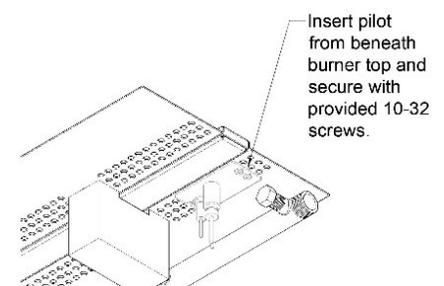

FIGURE 50
- 11) Insert the pilot assembly from underneath the existing burner pan to the area of the removed burner section. **(Figure 50)**